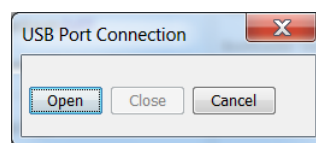

Figure 10.3
- Click the "Setting" > "Communication" > USB. Initialize the communication by clicking the "Open" button in the USB Port Connection pop-up window, Figure 10.3.